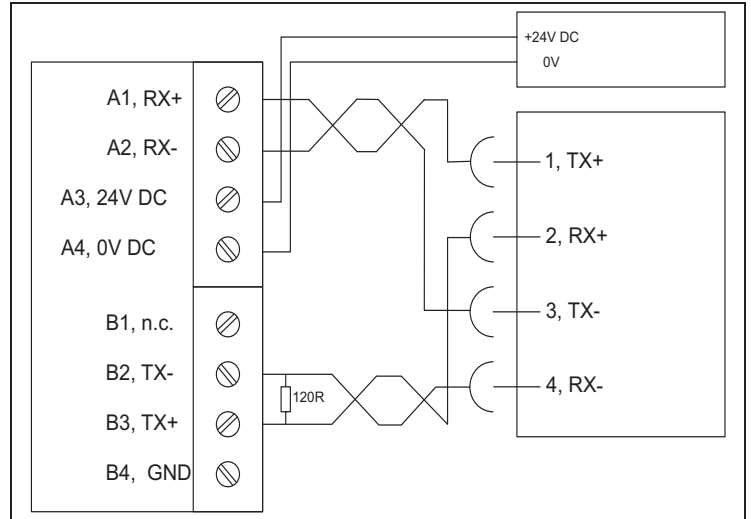

Fig. 2: SPM electrical connection
- ▶ Connect the SPM as shown in Fig. 2.